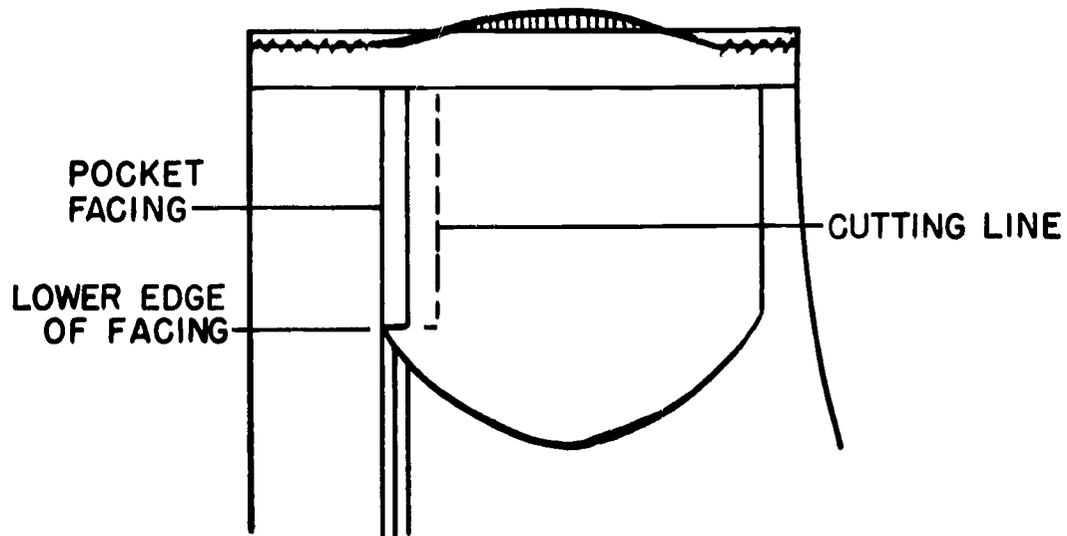

Figure 82.
4. Cut the pocket out of the trousers, beginning 1/2 inch beyond edge of pocket facing. Cut flush with bottom of facing at lower edge (see Figure 82).